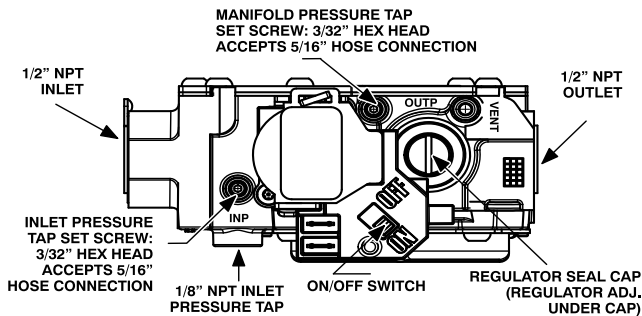

Fig. 64 – Gas Valve with Tower Pressure Ports
1. Adjust manifold pressure to obtain proper gas input rate. See Fig. 64.
- h. Remove regulator adjustment cap from gas valve pressure regulator and turn adjusting screw (3/16 or smaller flat-tipped screwdriver) counterclockwise (out) to decrease input rate or clockwise (in) to increase input rate. See Fig. 64.